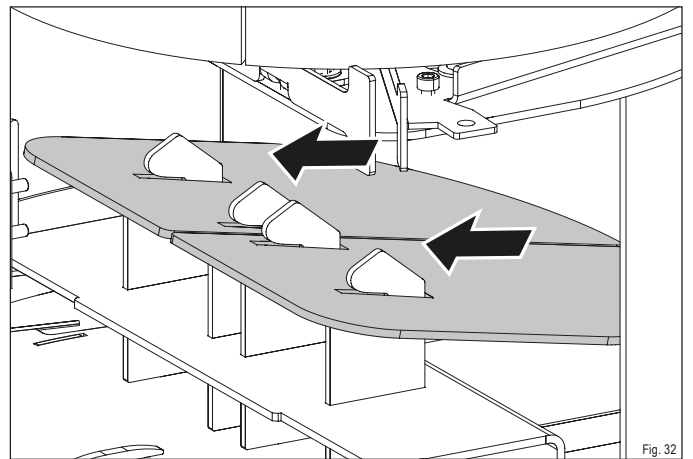

Fig. 32
- ▶ Slide the baffle plates upward to release them from the retainer (Fig. 32).